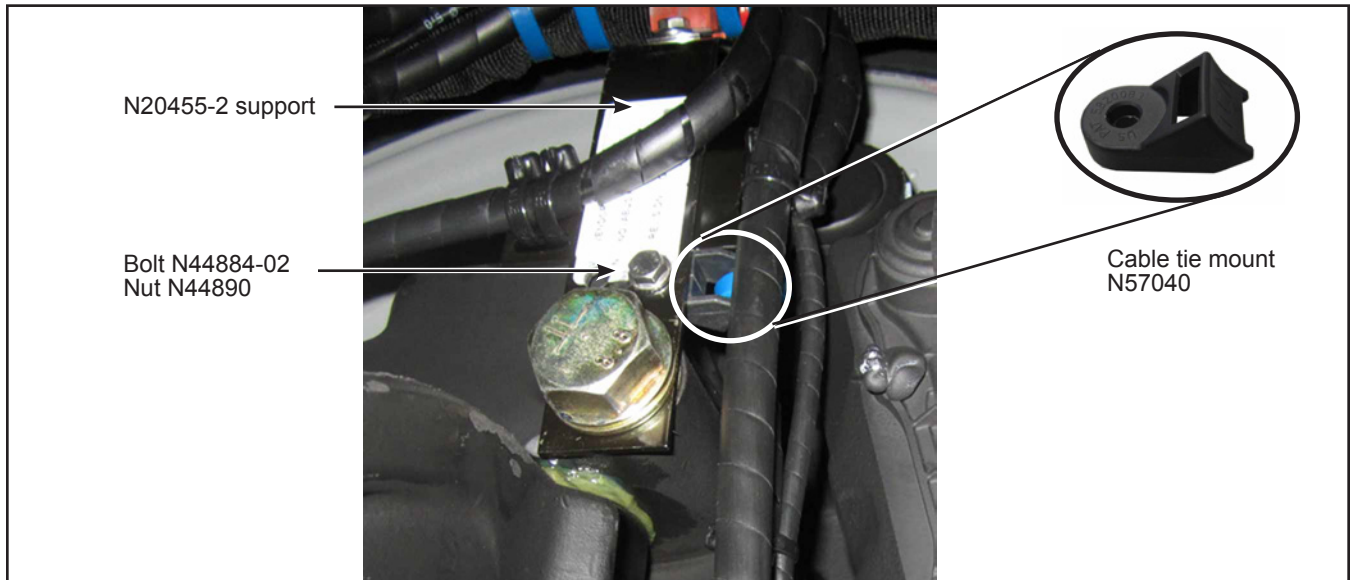

Figure 14 - Cable Tie Mount N57040 Installation
- 1.2.1. Verify that cable tie mount N57040 is installed (front axle only). See Figure 14.
2.17. Install the cable tie mount N57040 onto the N20455-2 support with the N44884 bolt and the N44890 nut. See Figure 14.